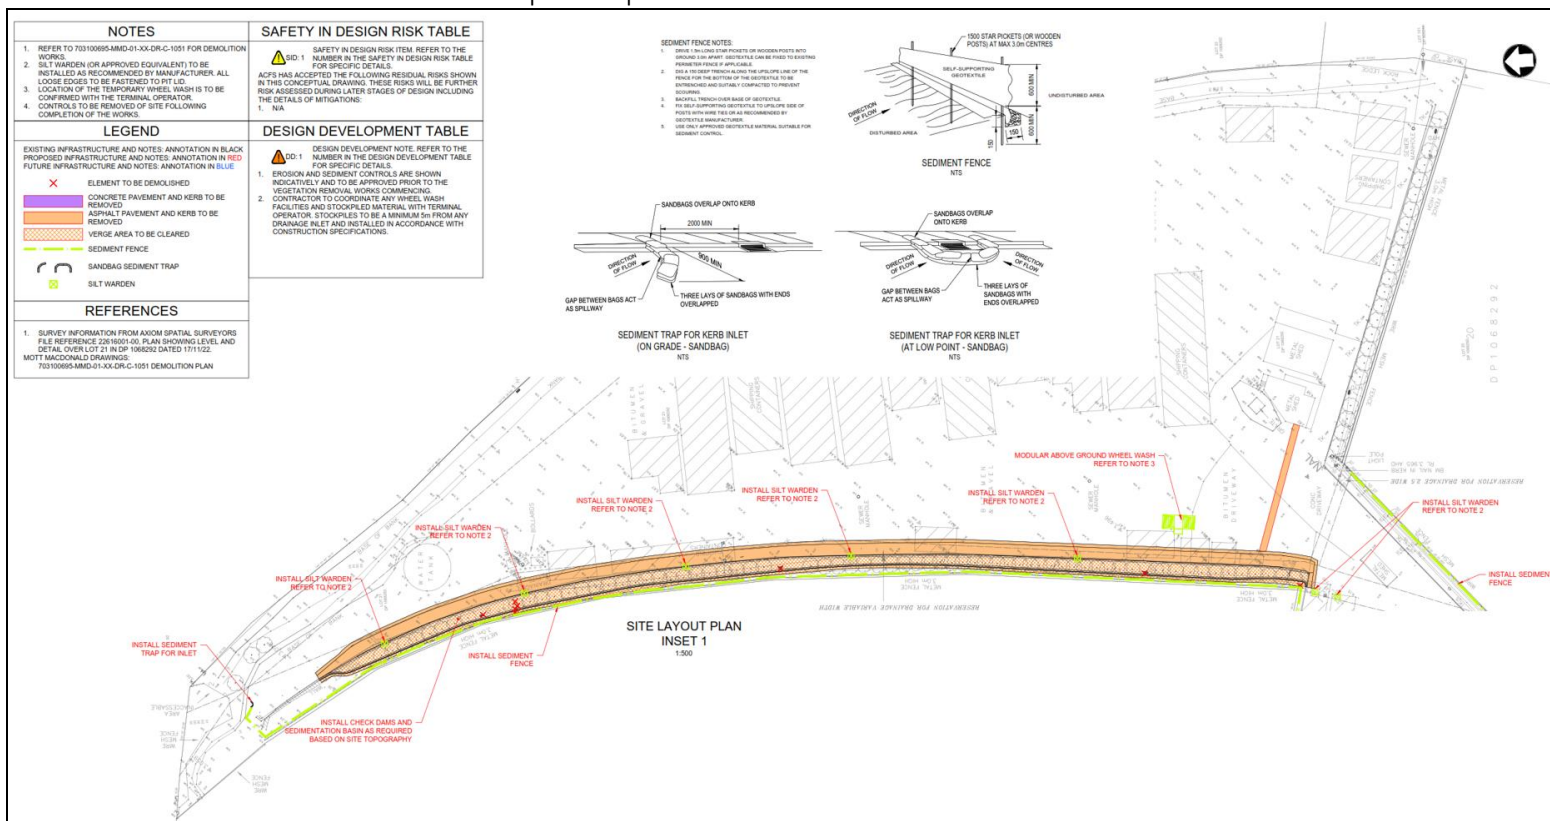

Figure 1
- Prior to the commencement of the works, sediment and erosion control will be implemented to ensure adequate measures are taken to reduce the risk of contamination of surrounding environments. Sediment Control Plan will be established as per Figure 1. Once established, the control measures are to be inspected prior to commencement of further works.